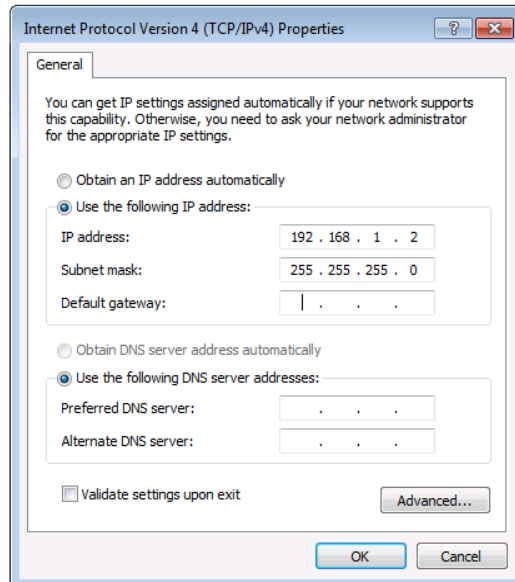

Figure 8: Internet Protocol Properties Window
- 6. Select **Use the following IP Address** for static IP addressing and enter the details as shown in Figure 8.